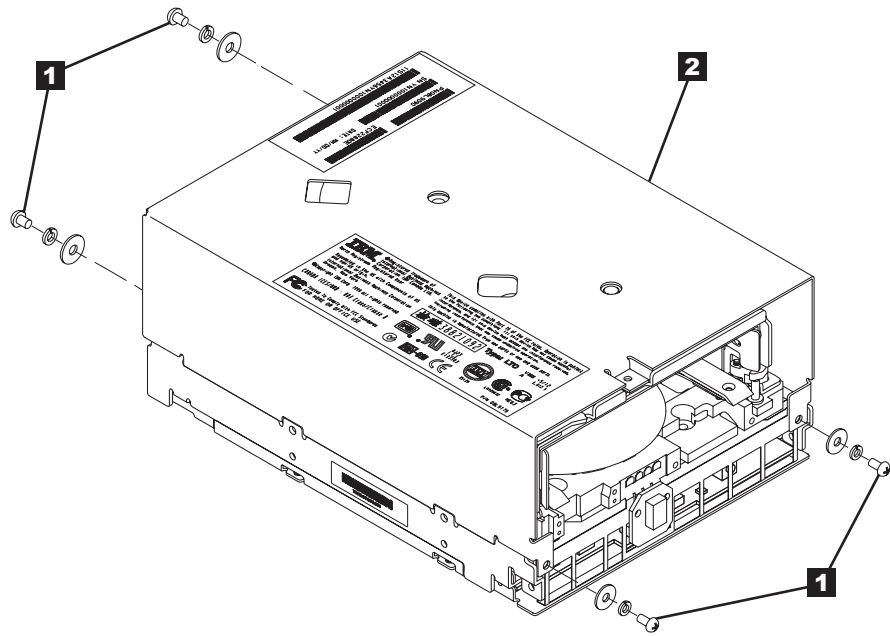

Figure 162. Removing the cover of the tape drive
- a. Remove the four cover-mounting screws and washers (see **1** in Figure 162 on page 274).